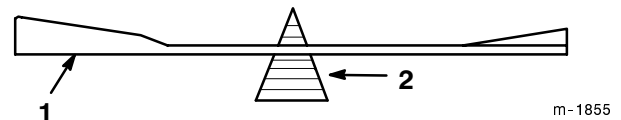
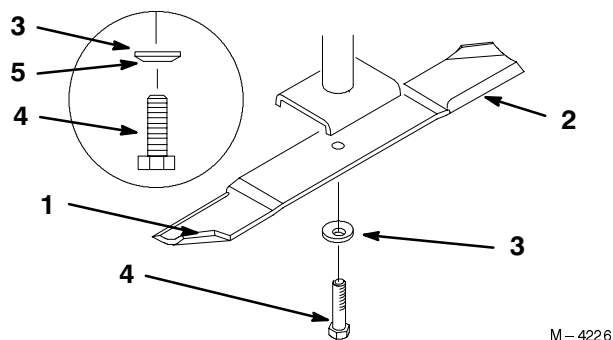

Figure 22
Figure 23
1. Hold the blade end using a rag or thickly-padded glove. Remove the blade bolt, spring disk and blade from the spindle shaft (Fig. 23).
2. Check the balance of the blade by putting it on a blade balancer (Fig. 22). If the blade stays in a horizontal position, the blade is balanced and can be used. If the blade is not balanced, file some metal off the end of the sail area only (Fig. 23). Repeat this procedure until the blade is balanced.
1. Install the blade onto the spindle shaft (Fig. 23).
2. Install the spring disk and blade bolt. The spring disk cone must be installed toward the bolt head. (Fig. 23).